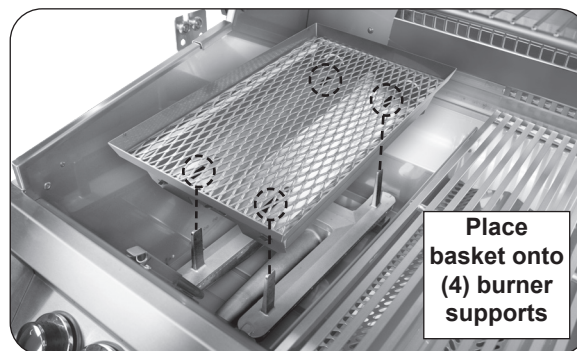
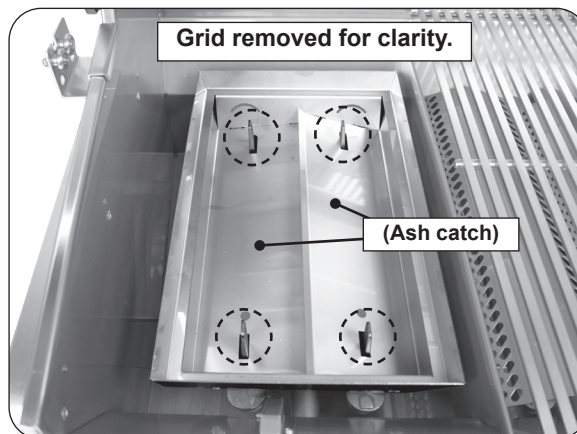

Fig. 40-3 Place basket onto burner
Fig. 40-4 Basket placement detail
3. Place basket onto burner in place of flavor grid. Align basket cutouts over burner supports (see Fig. 40-3 and Fig. 40-4).